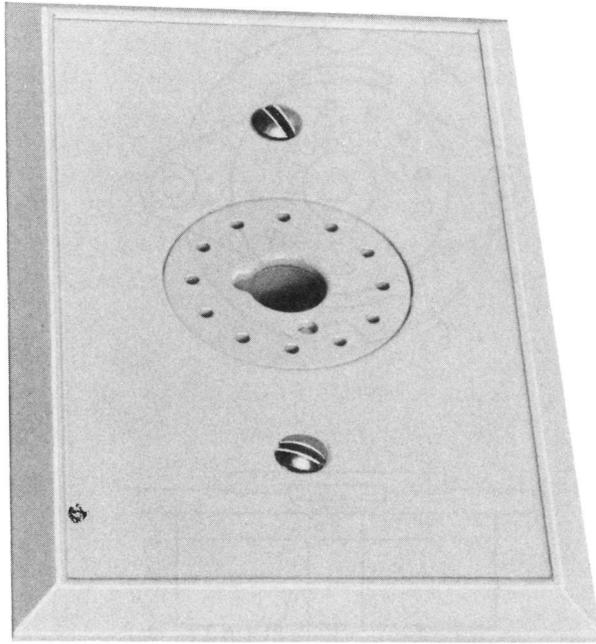

Fig. 29—547B-Type Jack
2.25 547B-49, 547B-50, and 547B-54: The flush wall-type jacks (Fig. 29) of a 541A-type jack, a 43B bracket, and a flush-type coverplate are arranged for mounting in a standard electrical outlet box. The associated 504A-type plugs can be inserted in one position only. This jack is used with the portable telephone sets having two through twelve conductor mounting cords.